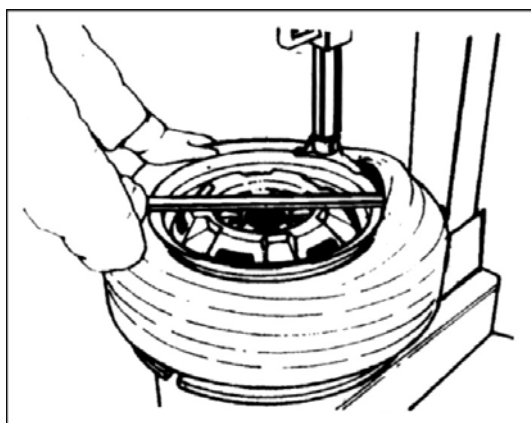
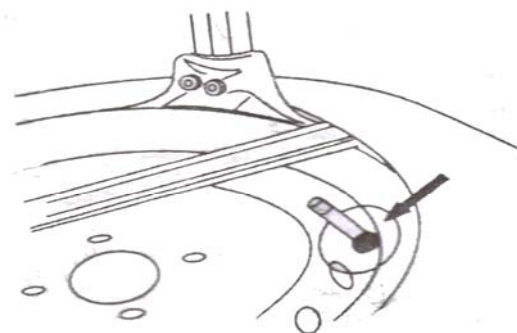

Fig 21
Fig 22
4.1.4 Use the crowbar to detach until the lip to the hump of the demount tool (fig21). Step the turntable rotation pedal (fig2-13)to rotate the turntable clockwise until the rim of the wheel fall off. If handling the tube tire, to avoid the damage on the tube, you should keep the nozzle of the tire 10cm from the right side of the demount tool See fig22.